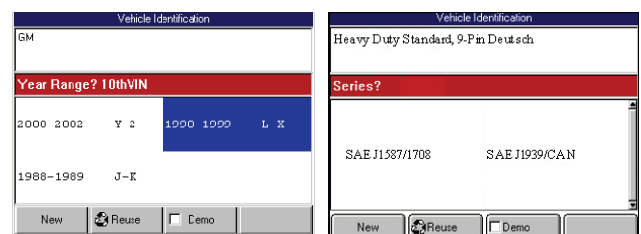

Figure 3.6: Vehicle Identification Screen Examples
- 5 With the Vehicle Identification screen displayed (Figure 3.6 on page 16), do one of the following: